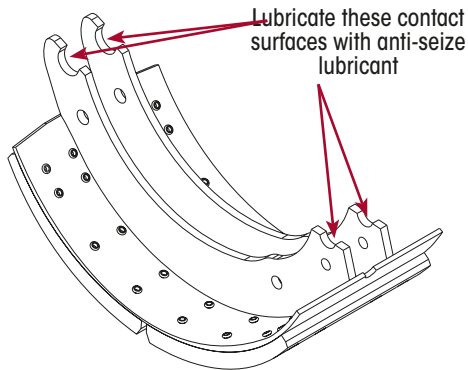

Figure 50: Brake Shoe Contact Surface Lubricant Points
1. Pre-lubricate brake shoe points as indicated in Figure 50.